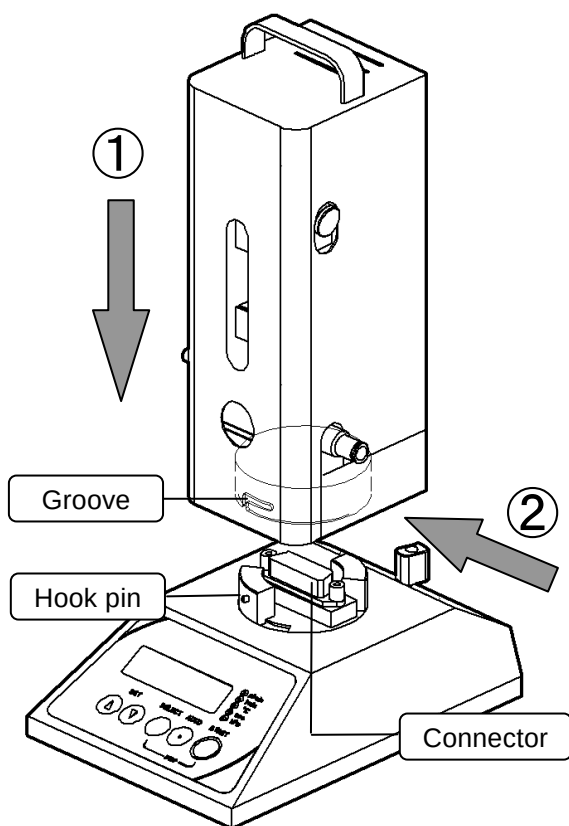

Fig.3 Installing measuring unit
- ① Install the measuring unit (VP-1U-VP-4U) suitable for the intended flow rate measurement as follows. Align hook pin on the equipment with the groove on the measuring unit to insert.
- ② Turn the fixing lever to the direction arrow in Fig.3 to complete the installation.